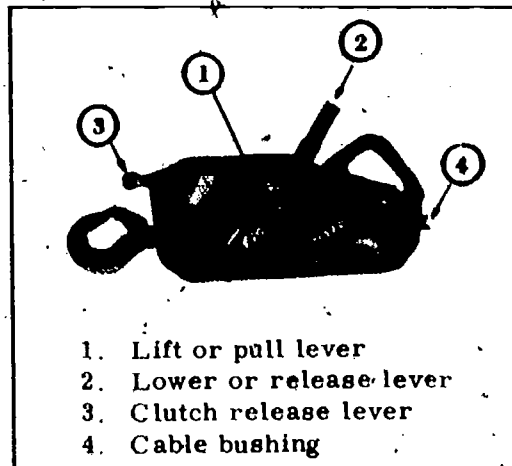

Fig 1-15. Model T-20 Griphoist.
b. **Griphoist (fig 1-15).** This item of equipment is one of the latest pulling and hoisting devices used by the Marine Corps. The Griphoist is used primarily to aid in sectionalizing equipment. It has a single-line capacity of 3,300 lb which can be increased with block and tackle and a 4-part line to pull or lift 6 tons. The Griphoist uses 1/2 in. wire rope usually issued in 60-ft lengths, but the length is not limited. A pressure of 77 lb is required on the 44 1/4-in. telescopic handle to lift a 3,300-lb load. One complete stroke of the handle, which closes to 25 in., will move the load 2 3/4 in. It operates on the draw-vise principle and lifting and lowering of the load is accomplished by two pairs of steel jaws controlled by a hand lever. The cable is held at all times, when loaded, by one pair of jaws. The power stroke lever is keyed to the Griphoist crankshaft by two shear pins designed to shear at about 6,600 lb. The shear pins protect the Griphoist from more serious damage and prevent further lifting or pulling. The load can be released or lowered with broken shear pins. The item should be cleaned and oiled before returning to storage. Excessive amounts of oil or grease will not harm the hoist.